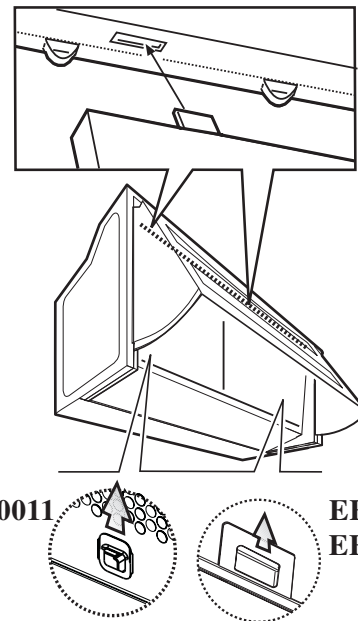

Fig. 4
Move the handles upwards, then extract the grill/filter outwards. **Fig. 4**
**To refit the grill (EFI 60011) or the metal grease filter (EFI 60012 - EFI 60013):** fit above on the appropriate supports, and fixed in the lower part with the handles. **Fig. 4**